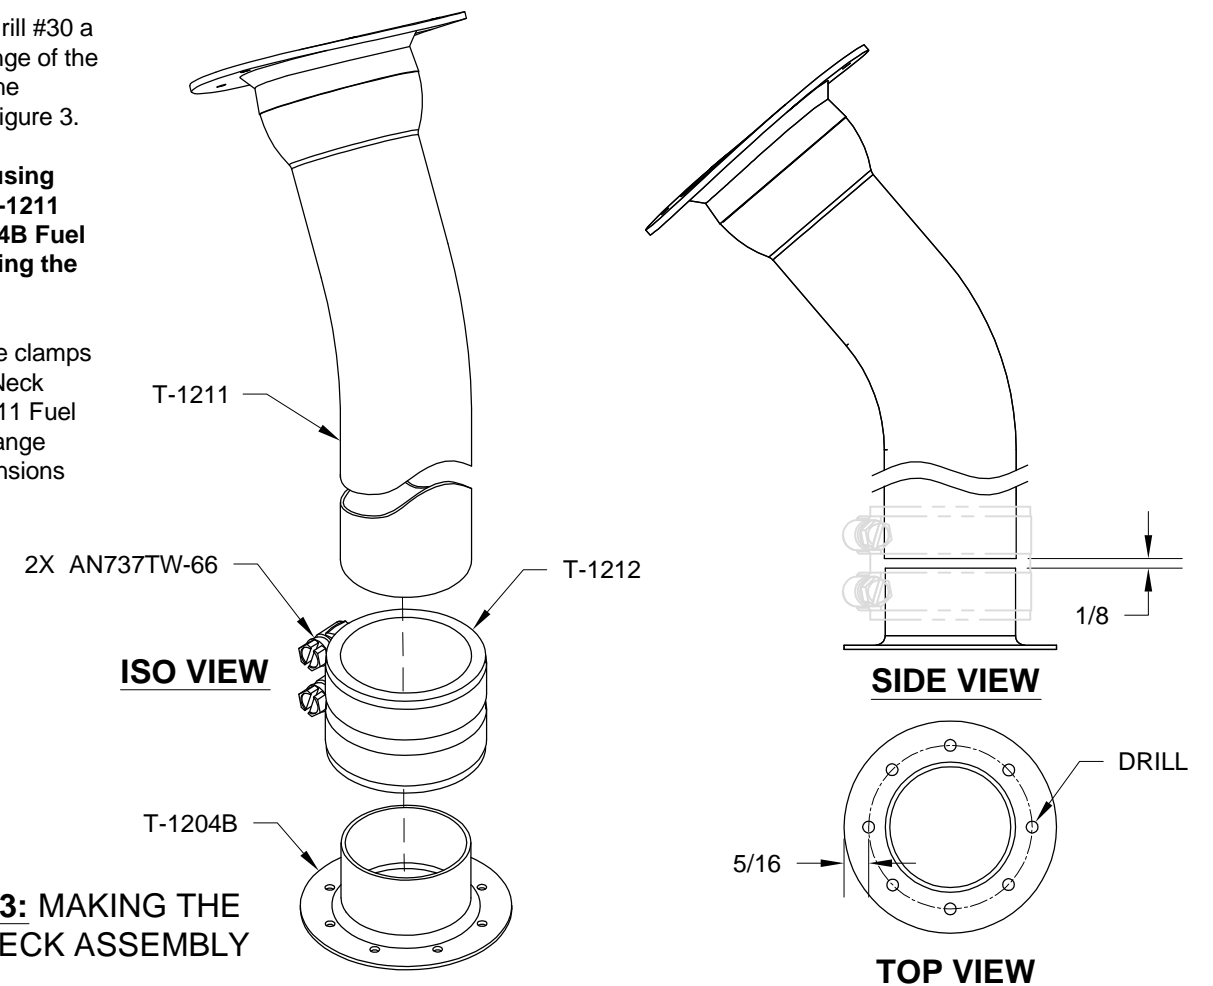

FIGURE 3: MAKING THE FILLER NECK ASSEMBLY
Step 10: Layout and drill #30 a hole pattern in the flange of the T-1204B Flange per the dimensions given in Figure 3.
Step 11: Use two hose clamps and the T-1212 Fuel Neck Collar to join the T-1211 Fuel Neck and T-1204B Flange together per the dimensions called out in Figure 3.